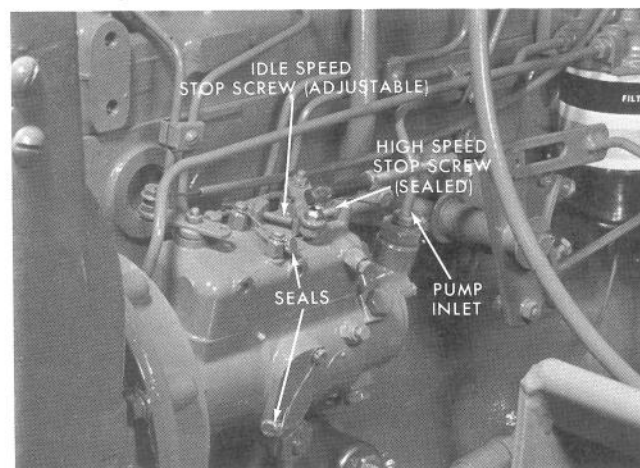

Figure 12
8. Loosen the union at the injection pump inlet (See Figure 12). Operate the priming lever until pure fuel, with no bubbles, is being forced out around the threads. Tighten the union.
The throttle lever has sufficient leverage available to damage the internal parts of the injection pump if the lever is FORCED in either direction. For this reason, stops are provided on the linkage to limit movement before damage occurs. Figure 12 shows the idle stop and the high speed